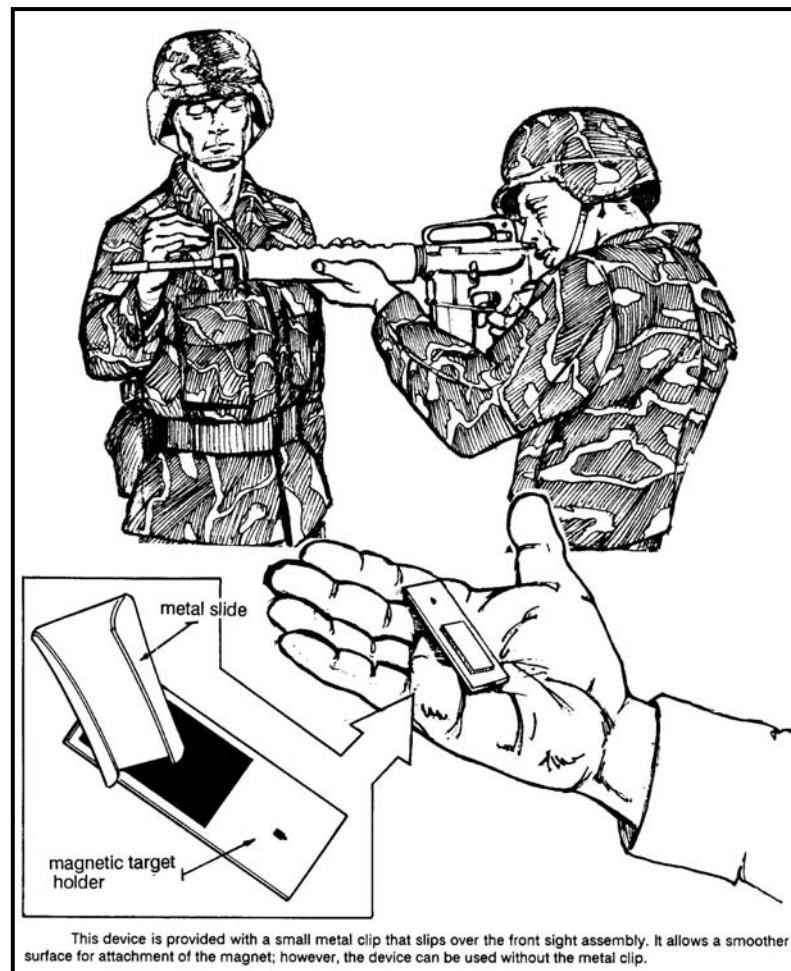

Figure A-2. Riddle sighting device.
(3) **Riddle Sighting Device.** The Riddle sighting device (Figure A-2) indicates if the soldier understands the aiming process while using the rifle. It is a small plastic plate with a magnet and a drawing of an E-type silhouette target. A two-man team is required for its use.